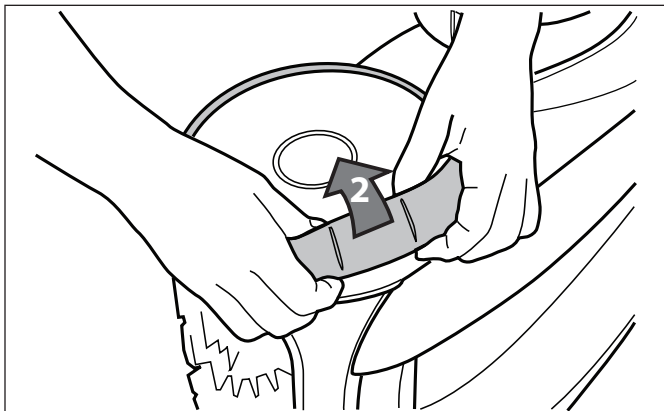

Figure 33. Remove the Old Tire
2. Remove the old tire as shown in Figure 33.